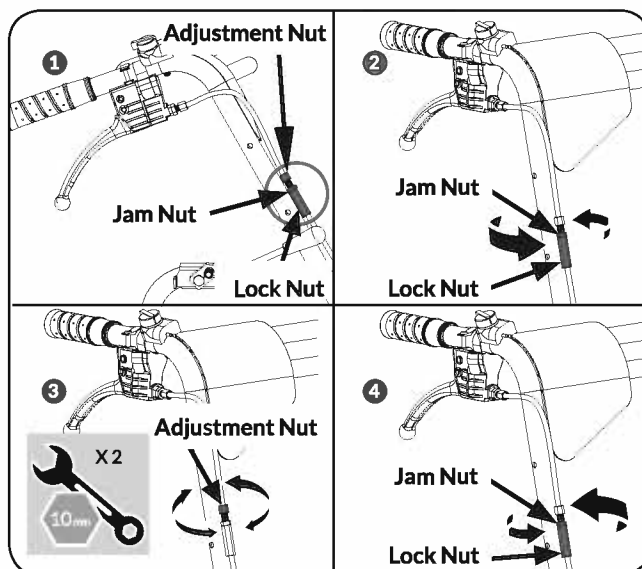

Figure 8a
1. Loosen the jam nut by turning it counter clockwise with 10mm wrench while holding the lock nut in place with 10mm wrench. (**See Figure 8a, Illustration 2**)
2. While holding the lock nut in place with a 10mm wrench, tighten (or loosen) the cable by turning the cable adjustment nut clockwise (or counter clockwise) with a 10mm wrench until you have reached your desired tightness. (**See Figure 8a, Illustration 3**)
3. Once you have reached your desired cable tightness, tighten the jam nut by turning it clockwise until it is tight against the lock nut. (**See Figure 8a, Illustration 4**)